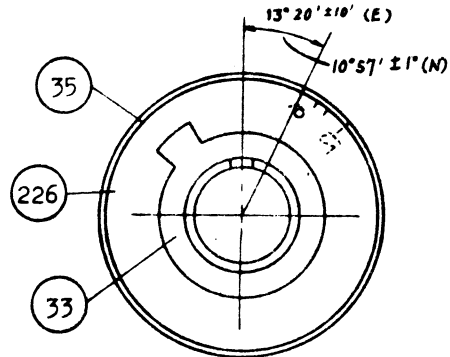

Fig. 12
- 1-1. When cementing the ASA scale #35 onto #226 in replacement, be careful to keep the correct angle so that the index 6 makes an angle of  $13^{\circ} 20' \pm 10'$  from the center of the notch found on ASA stopper #33, as shown in Fig. 12.